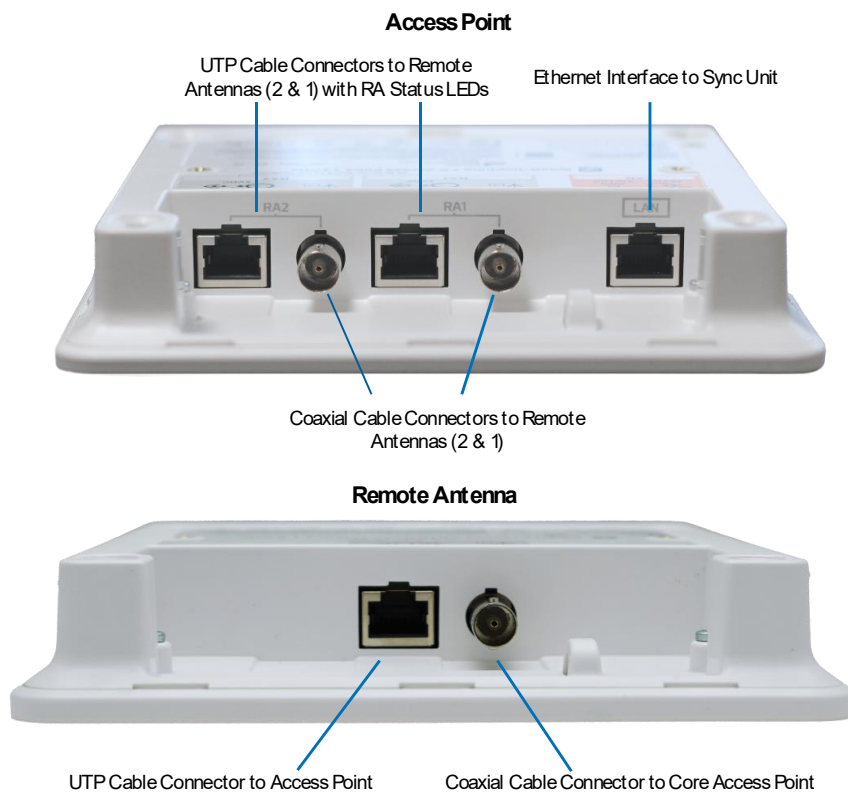

Figure 31: 1.4 GHz Smart-hopping 2.0 Access Point with Remote Antenna Controls and Connectors
- i. If installing a Smart-hopping 2.0 Access Point, see Figure 31.